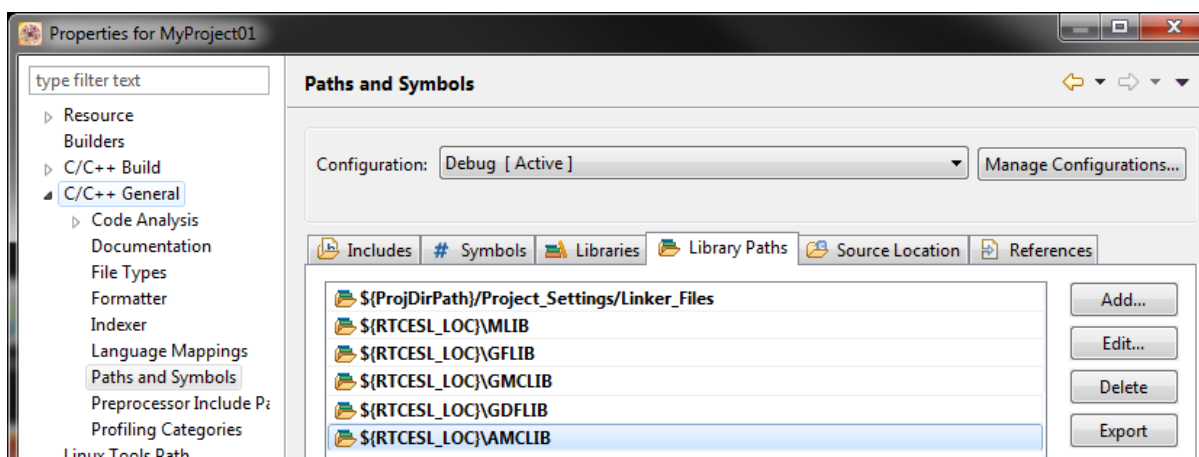

Figure 1-11. Library paths
3. In the right-hand dialog, select the Library Paths tab. See Figure 1-11.
14. Click OK, and the paths will be visible in the list. See Figure 1-11.